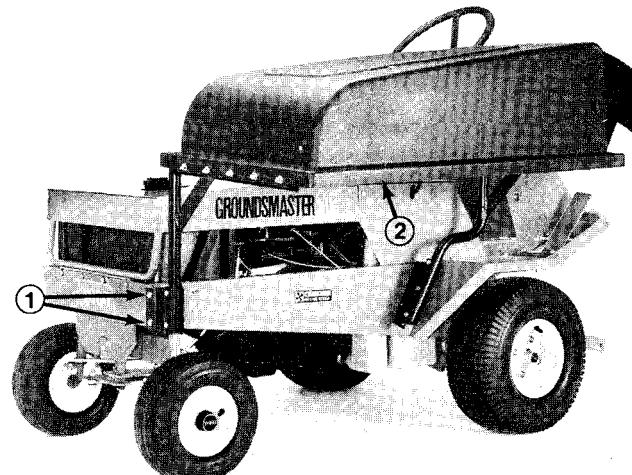

Figure 16
3. Slide hopper frame into mounting brackets, align mounting holes and secure with (5) 5/16-18 x 2" lg. capscrews and nuts (Fig. 16).